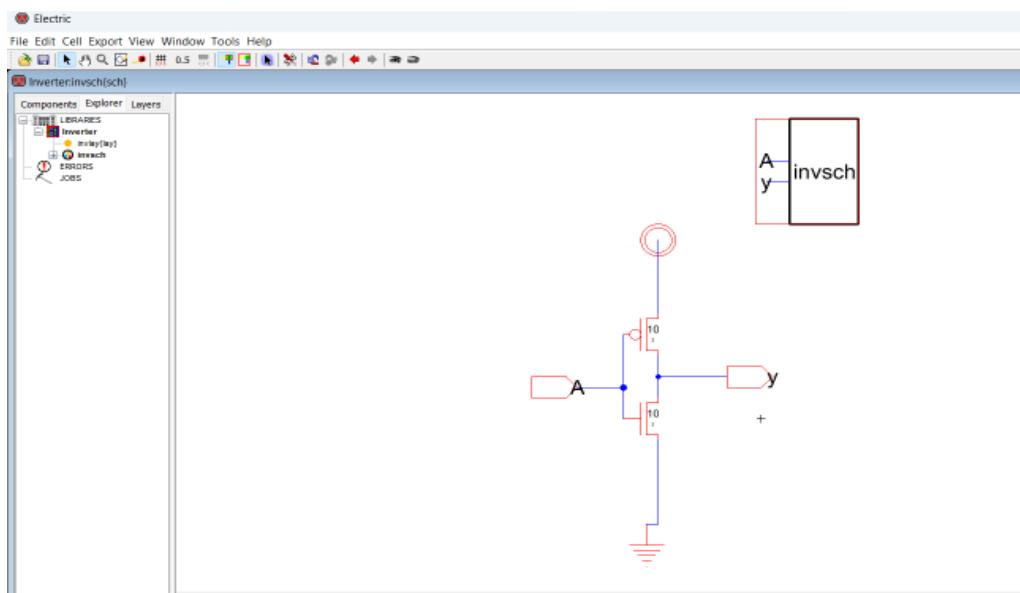

Figure 1.30: The icon from the schismatic.
22. To check if the icon has been done, go to Explorer in the left window and see if the invsch(ic) is found. If you click on it, you will see the icon as Figure 1.30 shown